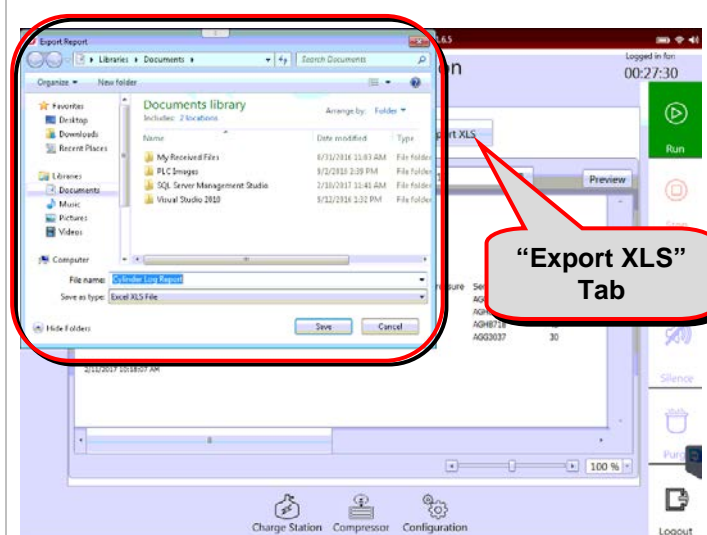

Figure 4.1-14: Report Save Location
14. Use the scroll bar and choose the location where to save the file. See Figure 4.1-14.